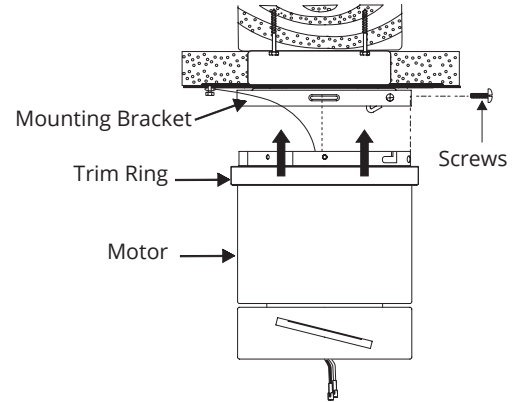

FIG. 18
3. Slide the canopy up to hanger bracket and place the key hole on the canopy over the screw on the hanger bracket. Turn canopy until it locks in place at the narrow section of the key holes (**FIG. 18**).